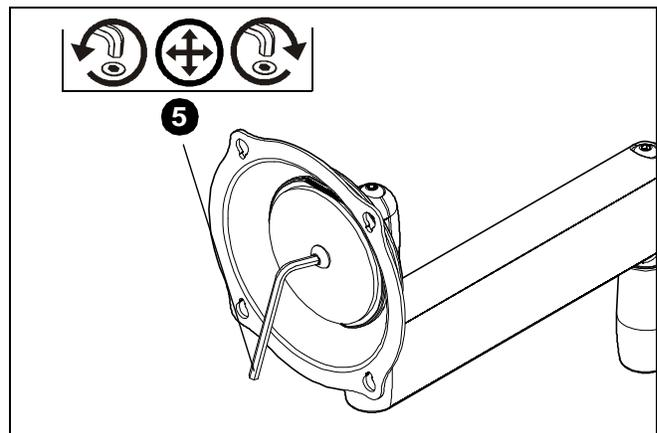

Figure 9
5. Using 3/16" hex key (P), turn the tension adjustment screw clockwise to increase tension, or counter-clockwise to decrease tension. (See Figure 9)